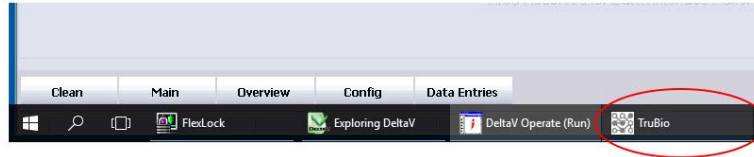

Figure 1.1. TruBio button shown on Main Screen.
1. From any screen (Main Screen is shown as an example), select **TruBio** at the bottom of the screen (Figure 1.1). The TruBio splash screen will display.